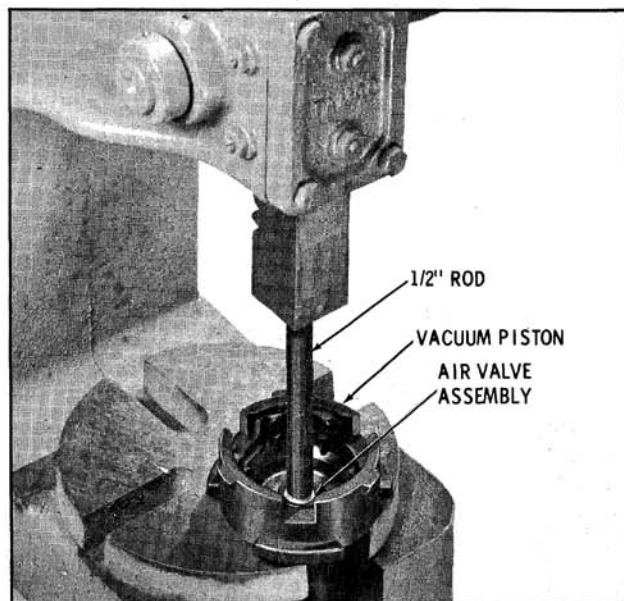

Fig. 11-37 Removing Air Valve
8. Place the vacuum piston, tube down, in a press. Using a rod not exceeding 1/2" in diameter, press the air valve assembly from the vacuum piston. (Fig. 11-37)